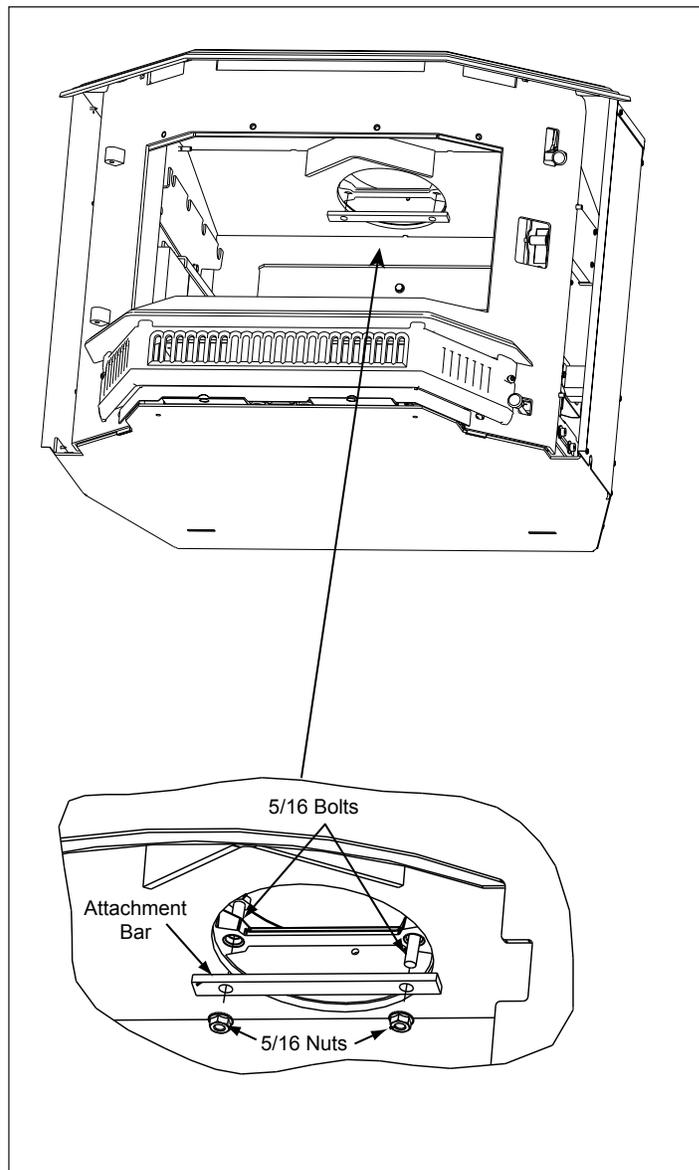

Figure 40.2
1. Once you have the appliance in place and secured, reach up through the flue opening and grab the attachment bar and pull down inside flue opening. **Figure 40.2.**